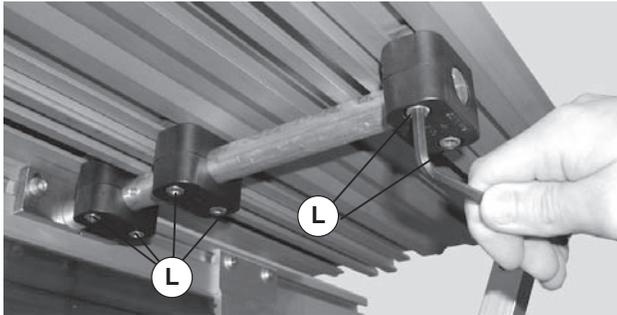

Figure 17
1. Loosen all clamp screws (Figure 17, item L) on each support bar.